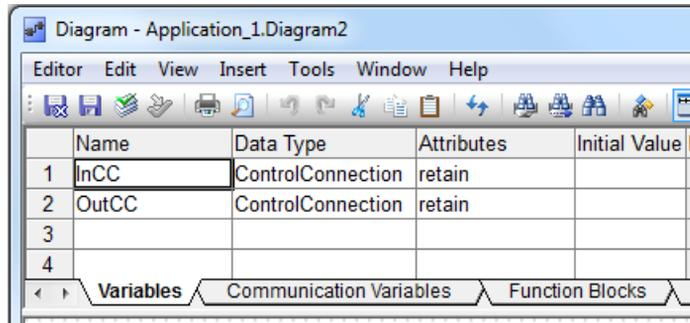

Figure 74. Variables for connecting the CCTemplate object in the diagram
3. In the declaration pane of diagram editor, declare two variables (InCC and OutCC of ControlConnection) according to Figure 74.